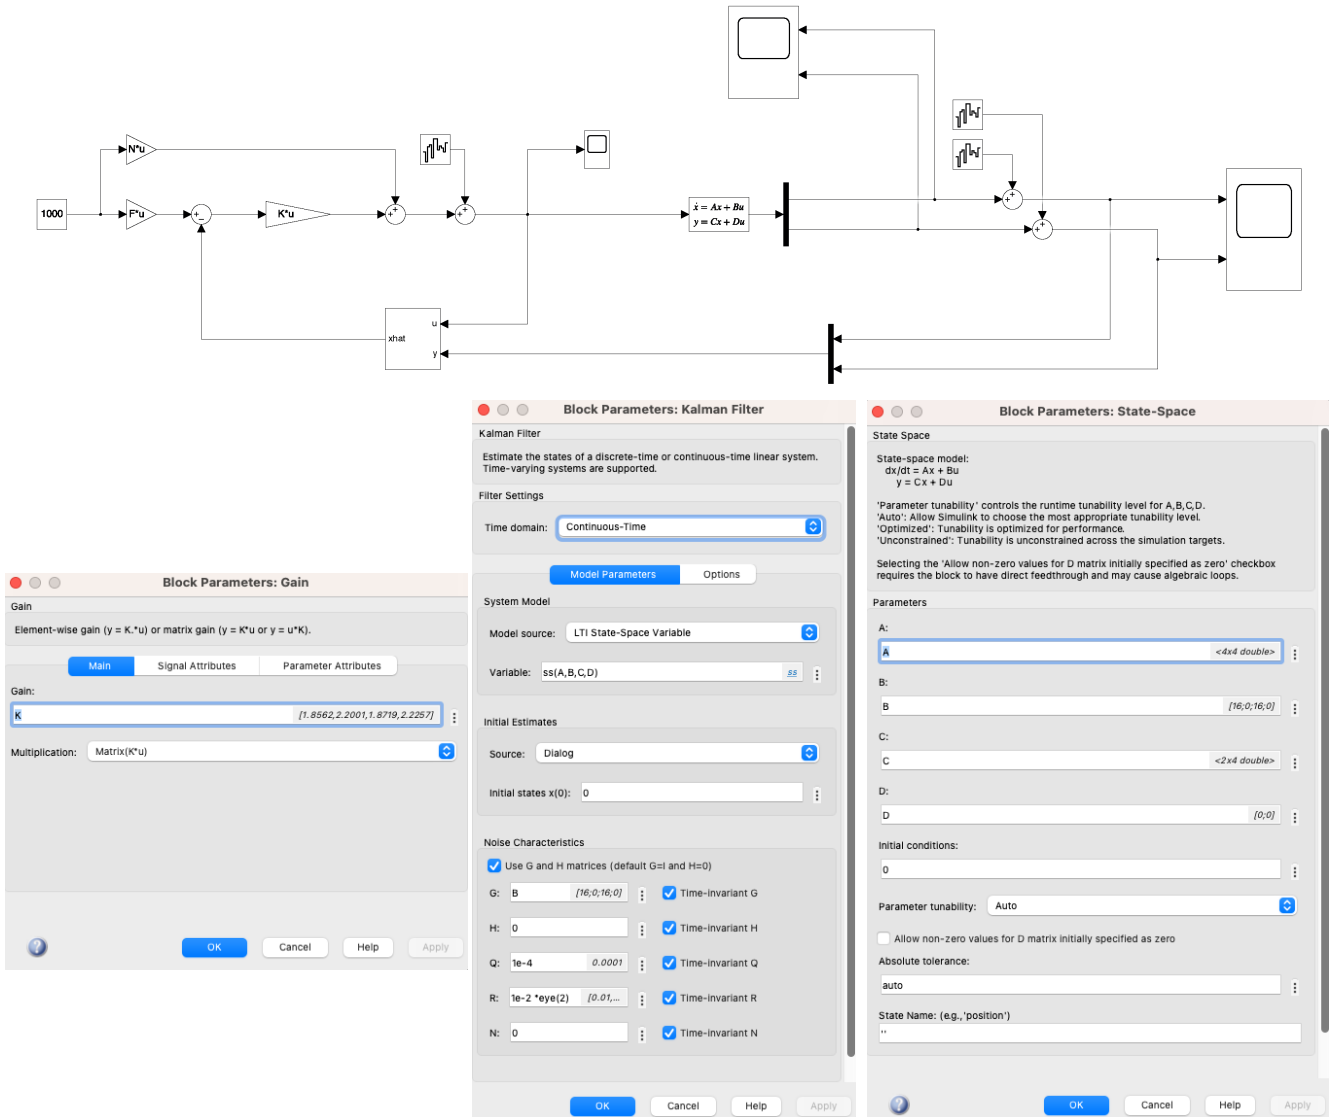

Figure 4: Simulation of LQG Control.
- Build the simulink model depicted in Fig. 4. The model includes band-limited white noise to simulate actuator noise (Noise Power = 10^{-4}) and sensor noise (Noise Power = 10^{-2}). You can play with Noise Power values.